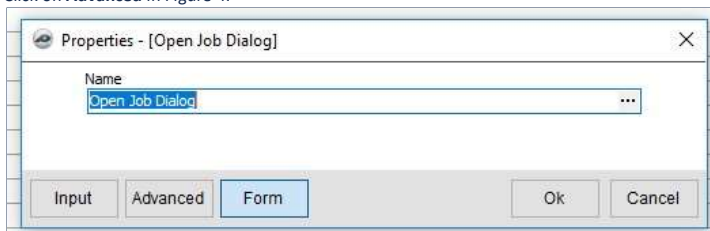

Figure 4
4. Click on **Advanced** in Figure 4.